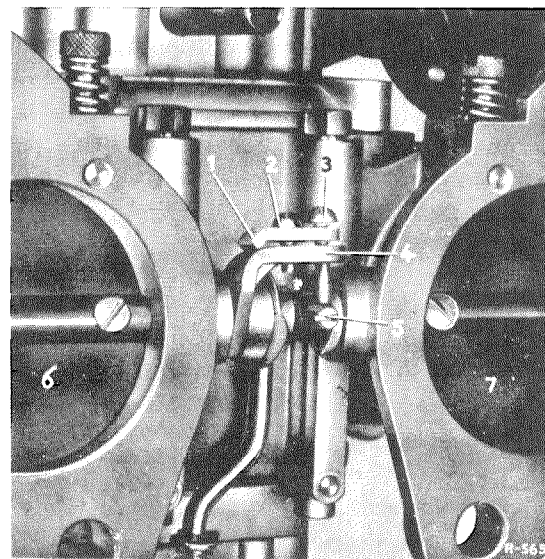

Fig. 01-3/21
1. Detach the push rod (17) between the angle lever and the control shaft and detach the two push rods (7) and (8) between the control shaft and the throttle valve levers (see Fig. 01-3/20).
2. Back out the idle adjustment screw (9) on the two carburetors until the throttle valve of Stage 1 is closed. In this position the throttle valve of Stage 2 must have a certain amount of play; if this is not the case, the adjustment screw (3) on the relay lever of the throttle valve shaft of Stage 1 must be backed out (see Fig. 01-3/21).
3. Now turn in the idle adjustment screw (9) on both carburetors to the point where the throttle valves are just about to open. From this position turn the screw in exactly one turn (Fig. 01-3/20).
4. Adjust the push rod (17) between the angle lever and the control shaft (16) to the prescribed length of 175 mm (measured from center ball socket to center ball socket) and attach it.
5. Adjust the push rod (8) between the control shaft (16) and the throttle valve lever (10) of the front carburetor to the prescribed length of 100 mm (measured from center ball socket to center ball socket) and attach the push rod.
6. Now press the push rod (7) onto the rear carburetor, making sure that the ball socket with left-hand thread points downward. Then adjust the push rod so that the throttle valve levers of both carburetors are in the idle stop position.